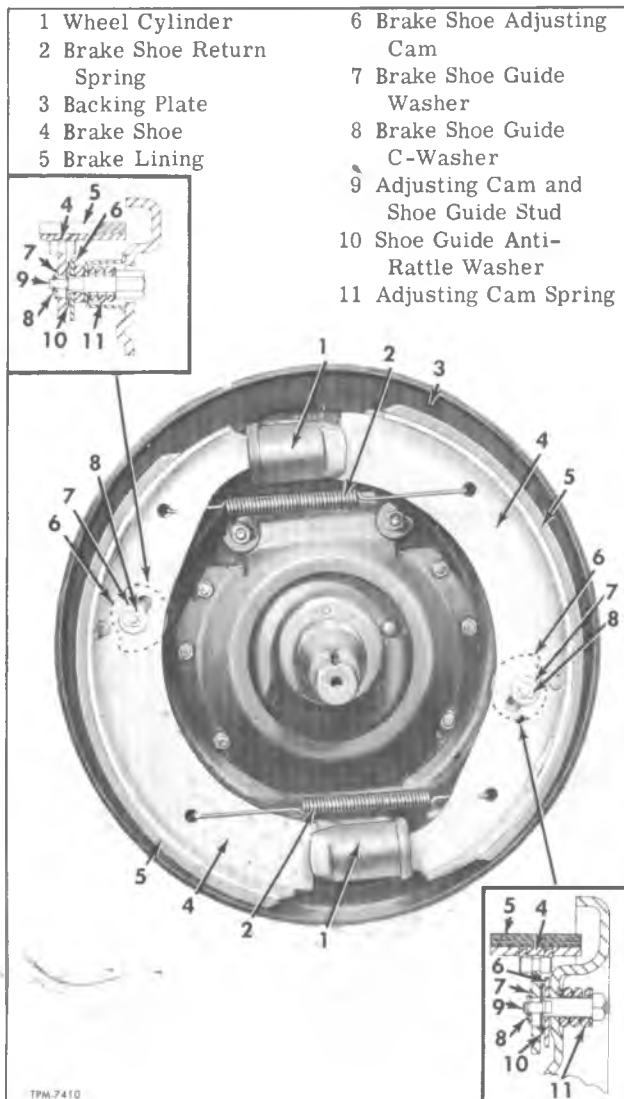

Figure 28—Type "F" Front Brake Assembly
(Refer to Figure 28)
**BRAKE SHOE REMOVAL (Fig. 28)**